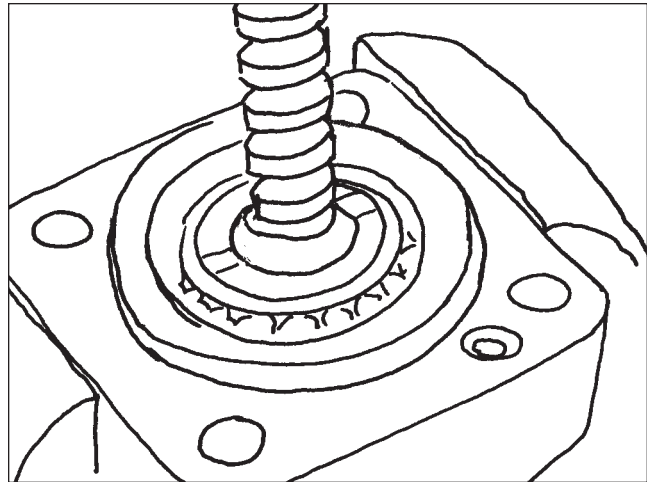

Figure 63
3. Use a vise to hold the bearing cap assembly in position with the rotary valve shaft sticking straight (Figure 63).